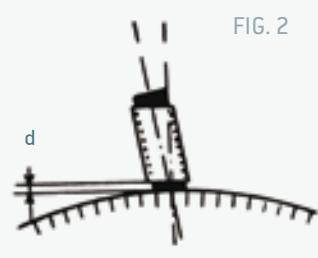

FIG. 2
- Adjust the "d" distance between brush-holder and commutator to range from 2.5 to 3 mm (Fig. 2).